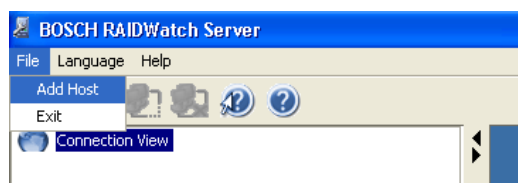
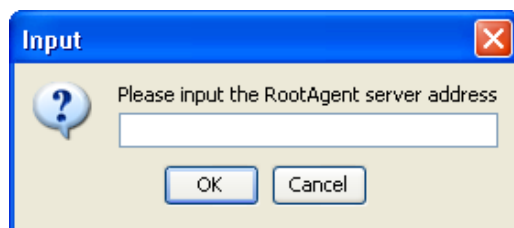

Fig. 4.3 Add Host Command
Fig. 4.4 Input Root Agent Dialog Box
2. From the Command menu, select File -> Add Host (see *Figure 4.3*), or right-click on *Connection View* to bring up the Input Root Agent Dialog Box, and enter a Root Agent IP here. (See *Figure 4.4*)